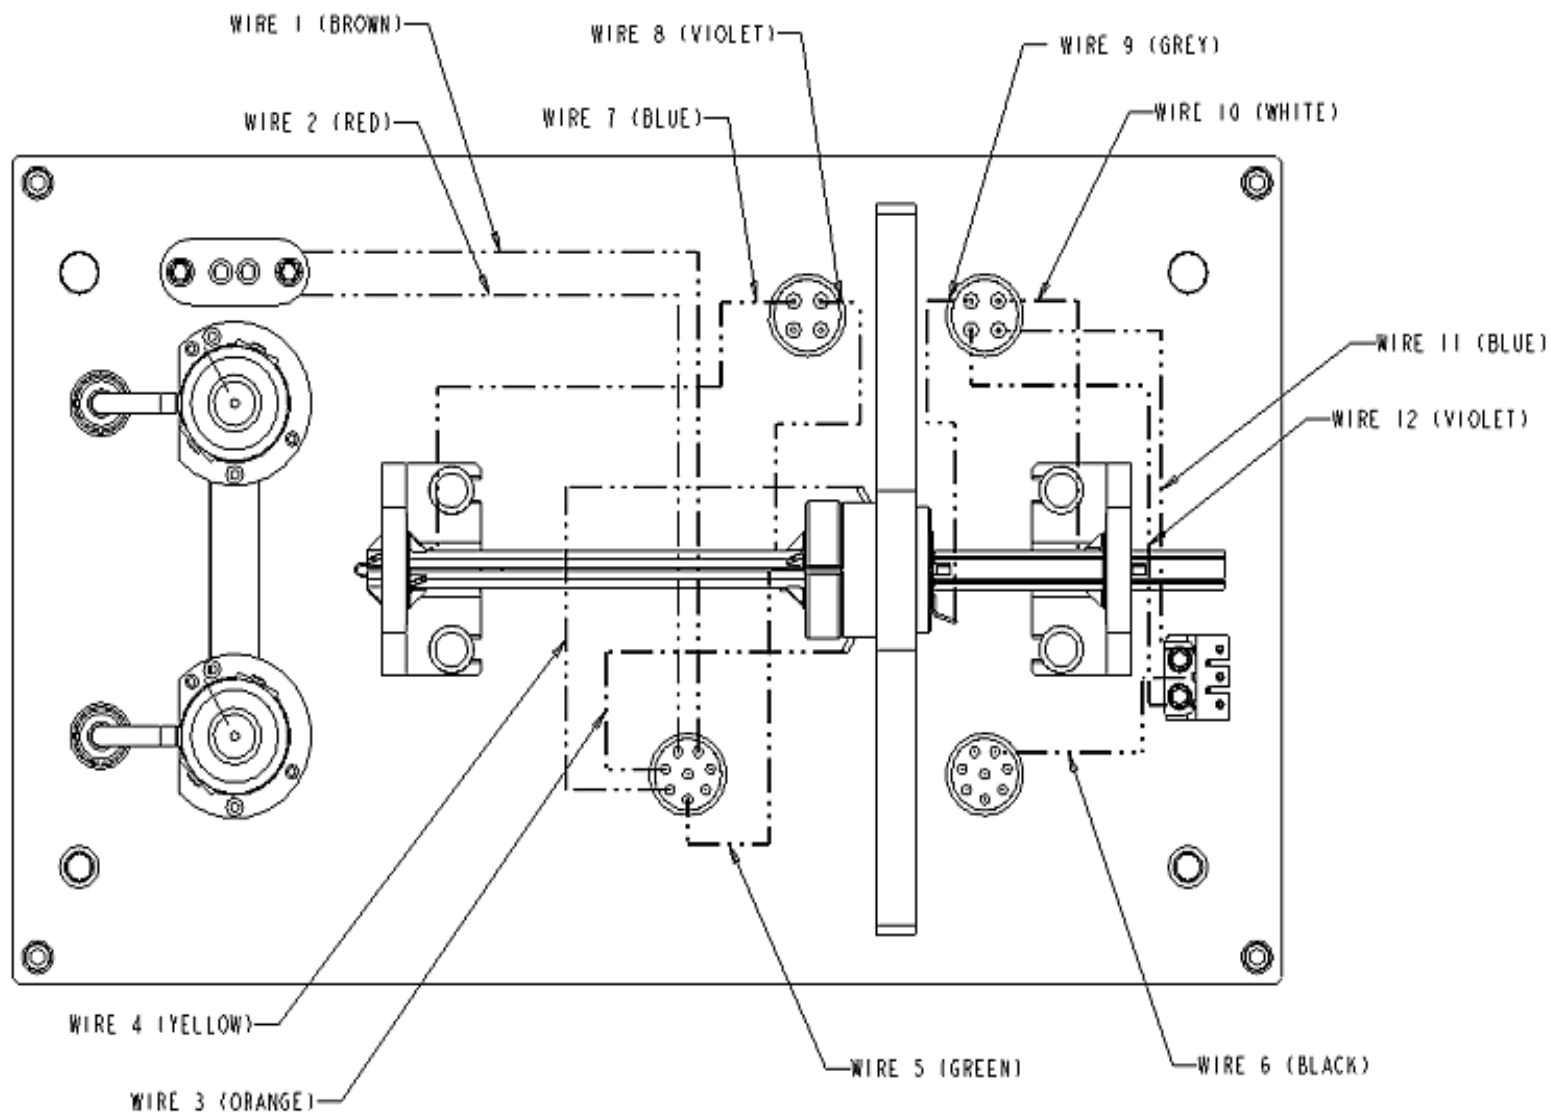

Figure 4-15. Wiring diagram for the Q0 and Q1 ion guides
3. Reconnect the electrical leads to the Q0 quadrupole, lens L1, gate lens, and Q1 octapole according to the wiring diagram shown in Figure 4-15.